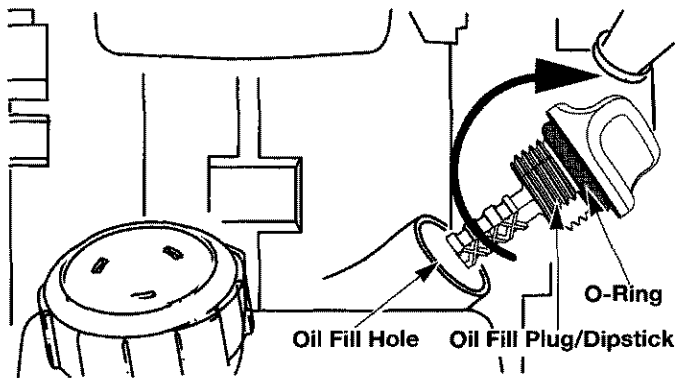

Fig. 23
6. If the level is low, add a small amount of oil to the oil fill hole and recheck (Fig. 23). Repeat until the oil level reaches the top of the dipstick.
NOTE: Make sure the O-ring is in place on the oil fill plug/dipstick when checking and changing the oil (Fig. 23).